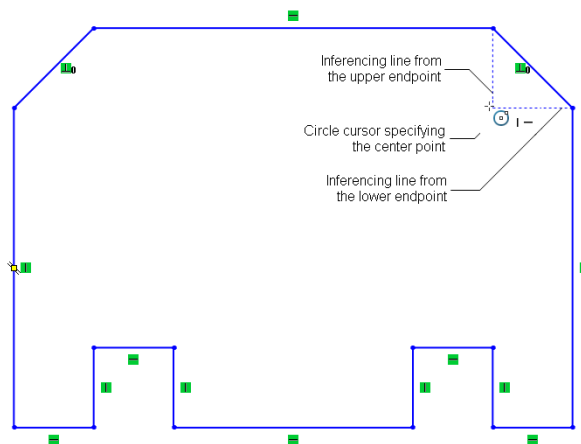

Figure 2-71 Drawing a circle with the help of inferencing lines
- Draw circles and sketch of inner cavity, refer to Figures 2-71 through 2-73
3. Move the circle cursor close to the lower endpoint of the right inclined line and then move it toward the left. Remember that you should not press the left mouse button at this moment. An inferencing line is displayed originating from the lower endpoint of the right inclined line. On moving the cursor toward the left, you will notice that another inferencing line originates at the point where the cursor is vertically in line with the upper endpoint of the right inclined line. This inferencing line will intersect the inferencing line generated from the lower endpoint of the inclined line, refer to Figure 2-71.